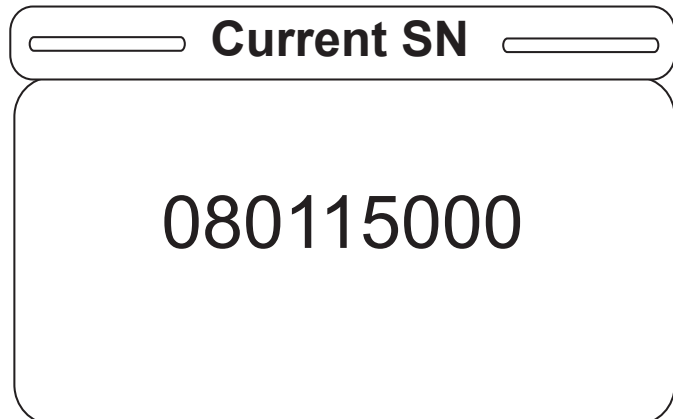

Figure S-30
28. Once a serial number is saved and the user enters the Current SN item, the screen in Figure S-30 will be displayed. The entered serial number will be displayed until the user hits the “Exit” button on the footboard panel.